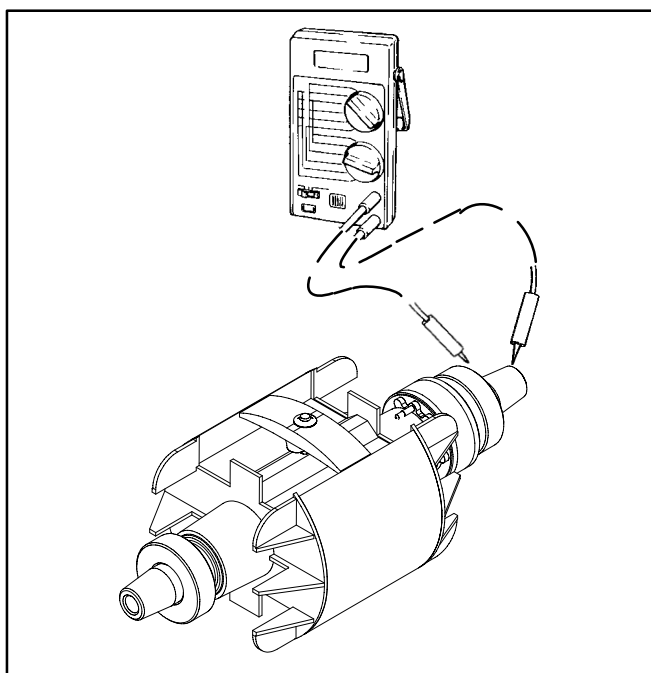

FIGURE 6-4. GROUNDED ROTOR TEST
**Ground Test:** Using a megger or the highest scale on a digital ohmmeter, measure resistance between the rotor and either slip ring (Figure 6-4). Replace the rotor if its winding has less than one megohm resistance to ground.